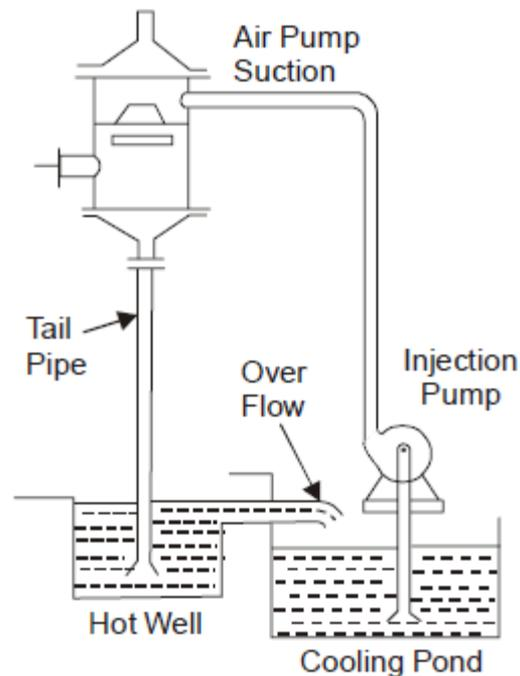

Fig 9.2 High level or Barometric condenser
- ❖ Fig. 9.2 shows a high-level jet condenser. The condenser shell is placed at a height of 10.33 m (barometric height) above the hot well.